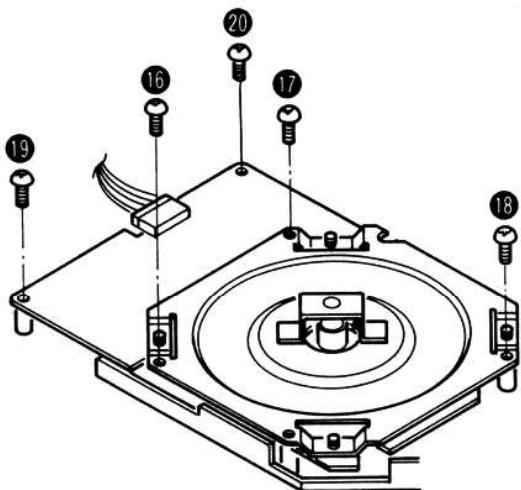

Fig. 8
2. Remove the 3 stator frame setscrews (Fig. 8: ⑯ ~ ⑰) and the 2 drive circuit board setscrews (Fig. 8: ⑲, ⑳).